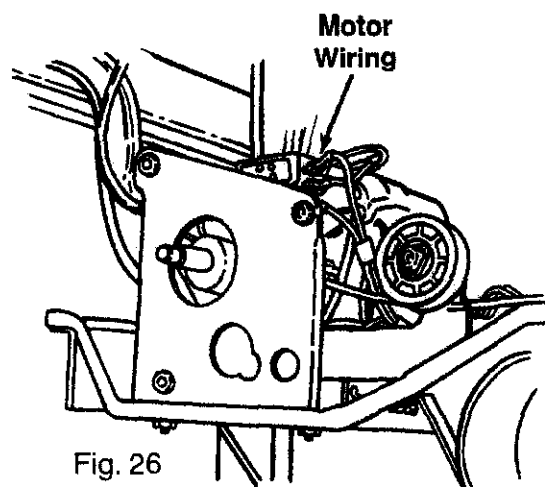

Fig. 26
8. Remove the Motor Wiring. (Fig. 26)
10. Remove four (4) motor bracket retaining screws and remove the motor.